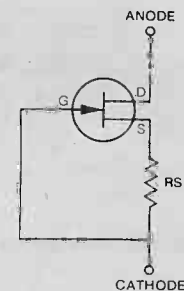

Fig. 14. A FET as a constant-current source.
For the benefit of those not familiar with these devices, a constant current diode is really a FET connected internally as shown in Fig. 14. Since current in a FET is controlled essentially by the gate-to-source voltage, changes in load or in applied drain to source voltage have negligible effect since gate-to-source voltage is held constant. This is a current analogue to the zener diode and is described in detail in Siliconix literature (6).